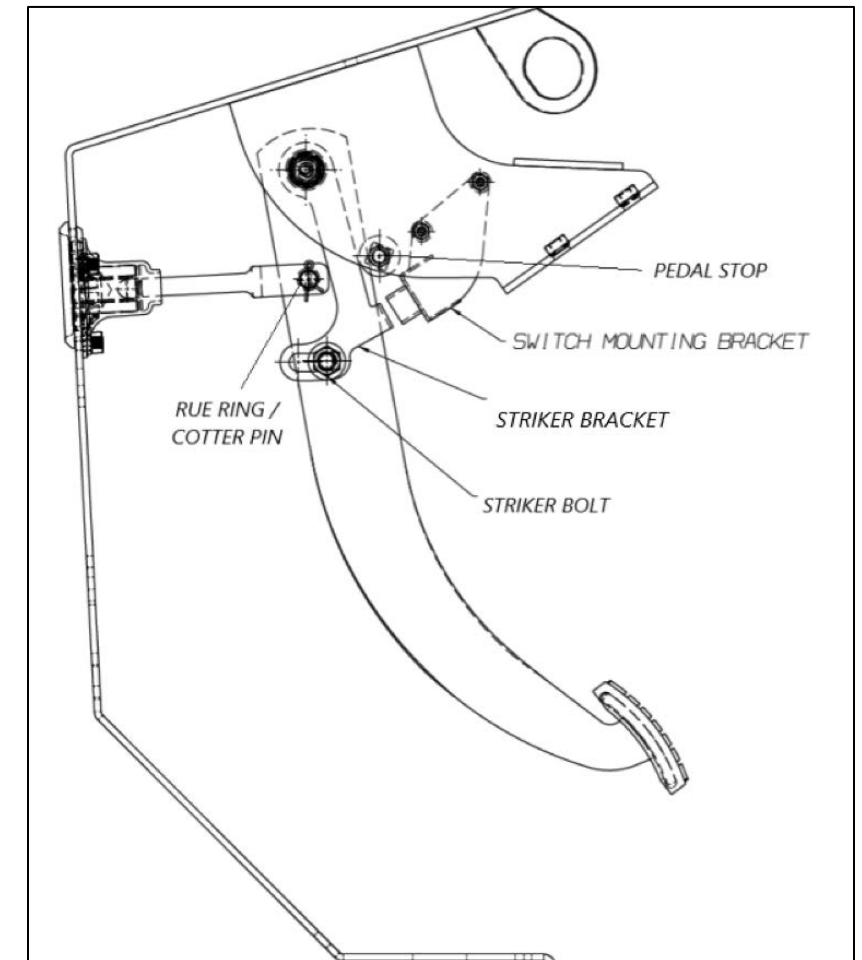

Figure 2
4. Remove the two fasteners mounting the switch mounting bracket to the steering column housing. Retain the mounting fasteners. *The switch bracket will not be reused, it should be discarded.* (Figure 2 and 3)
6. Remove the rue ring (or cotter key) and clevis pin from yoke/brake pedal (Figure 2)
7. If necessary, back off the pedal stop (threaded bolt) from steering column bracket to allow free motion of the brake pedal. (Figure 2)